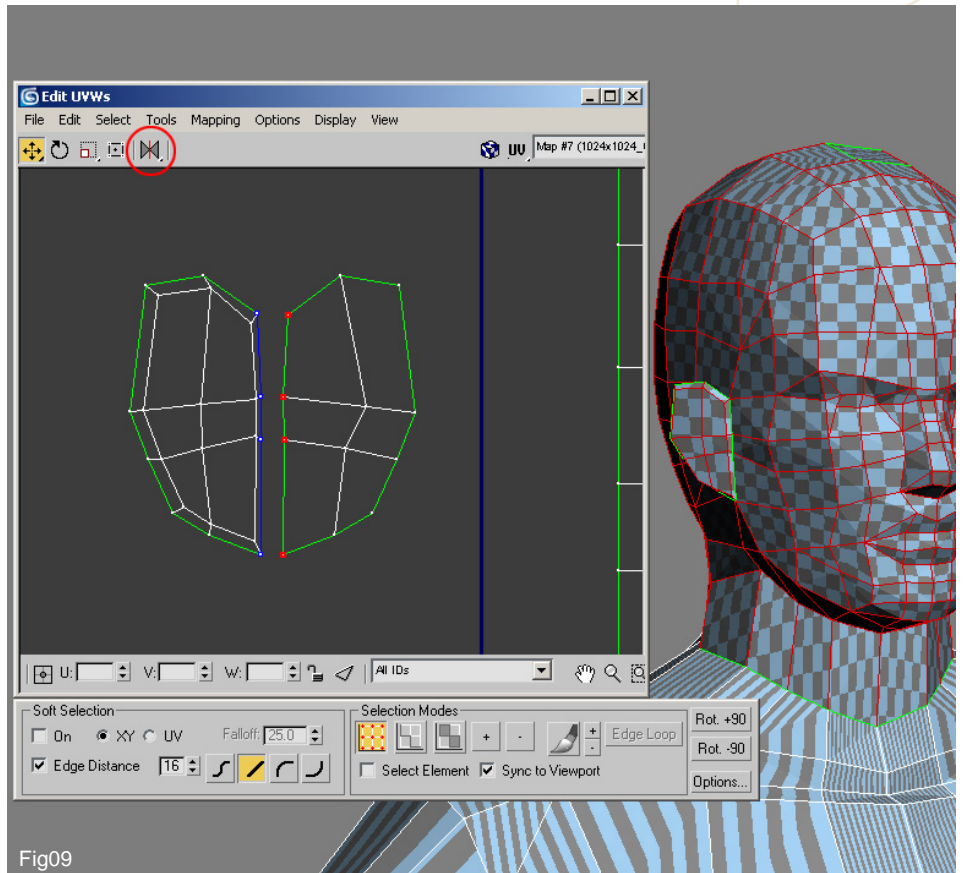

Fig09
9. First thing to do is move the inner faces of the ear outside and scale them to match the outer facing sections. At the moment the two halves have the same orientation so the newly mapped faces need to be flipped horizontally. Select all the verts and click on the symbol ringed in red along the top of Fig 09. Now select the left edge of verts and you will see the ones that correspond in blue alongside.